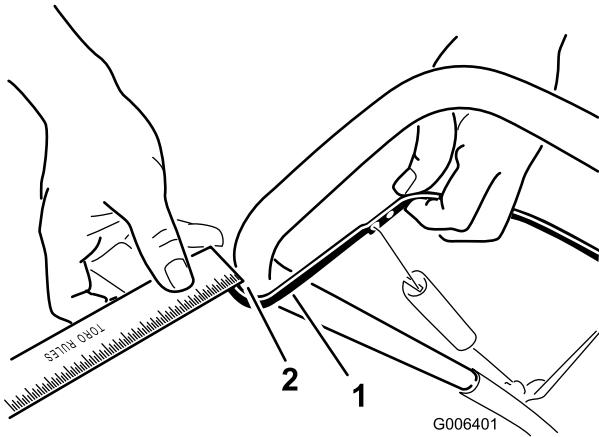

Figure 20
Move the control bar back toward the handle to remove the slack in the control cable (Figure 20).
**Note:** Ensure that a 1/16-inch to 1/8-inch (2 mm to 3 mm) gap exists between the control bar and the handle (Figure 20).
2. Move the Z-fitting to a higher or lower hole on the adjuster link as needed to obtain the 1/16-inch to 1/8-inch (2 mm to 3 mm) gap between the control bar and the handle (Figure 20).